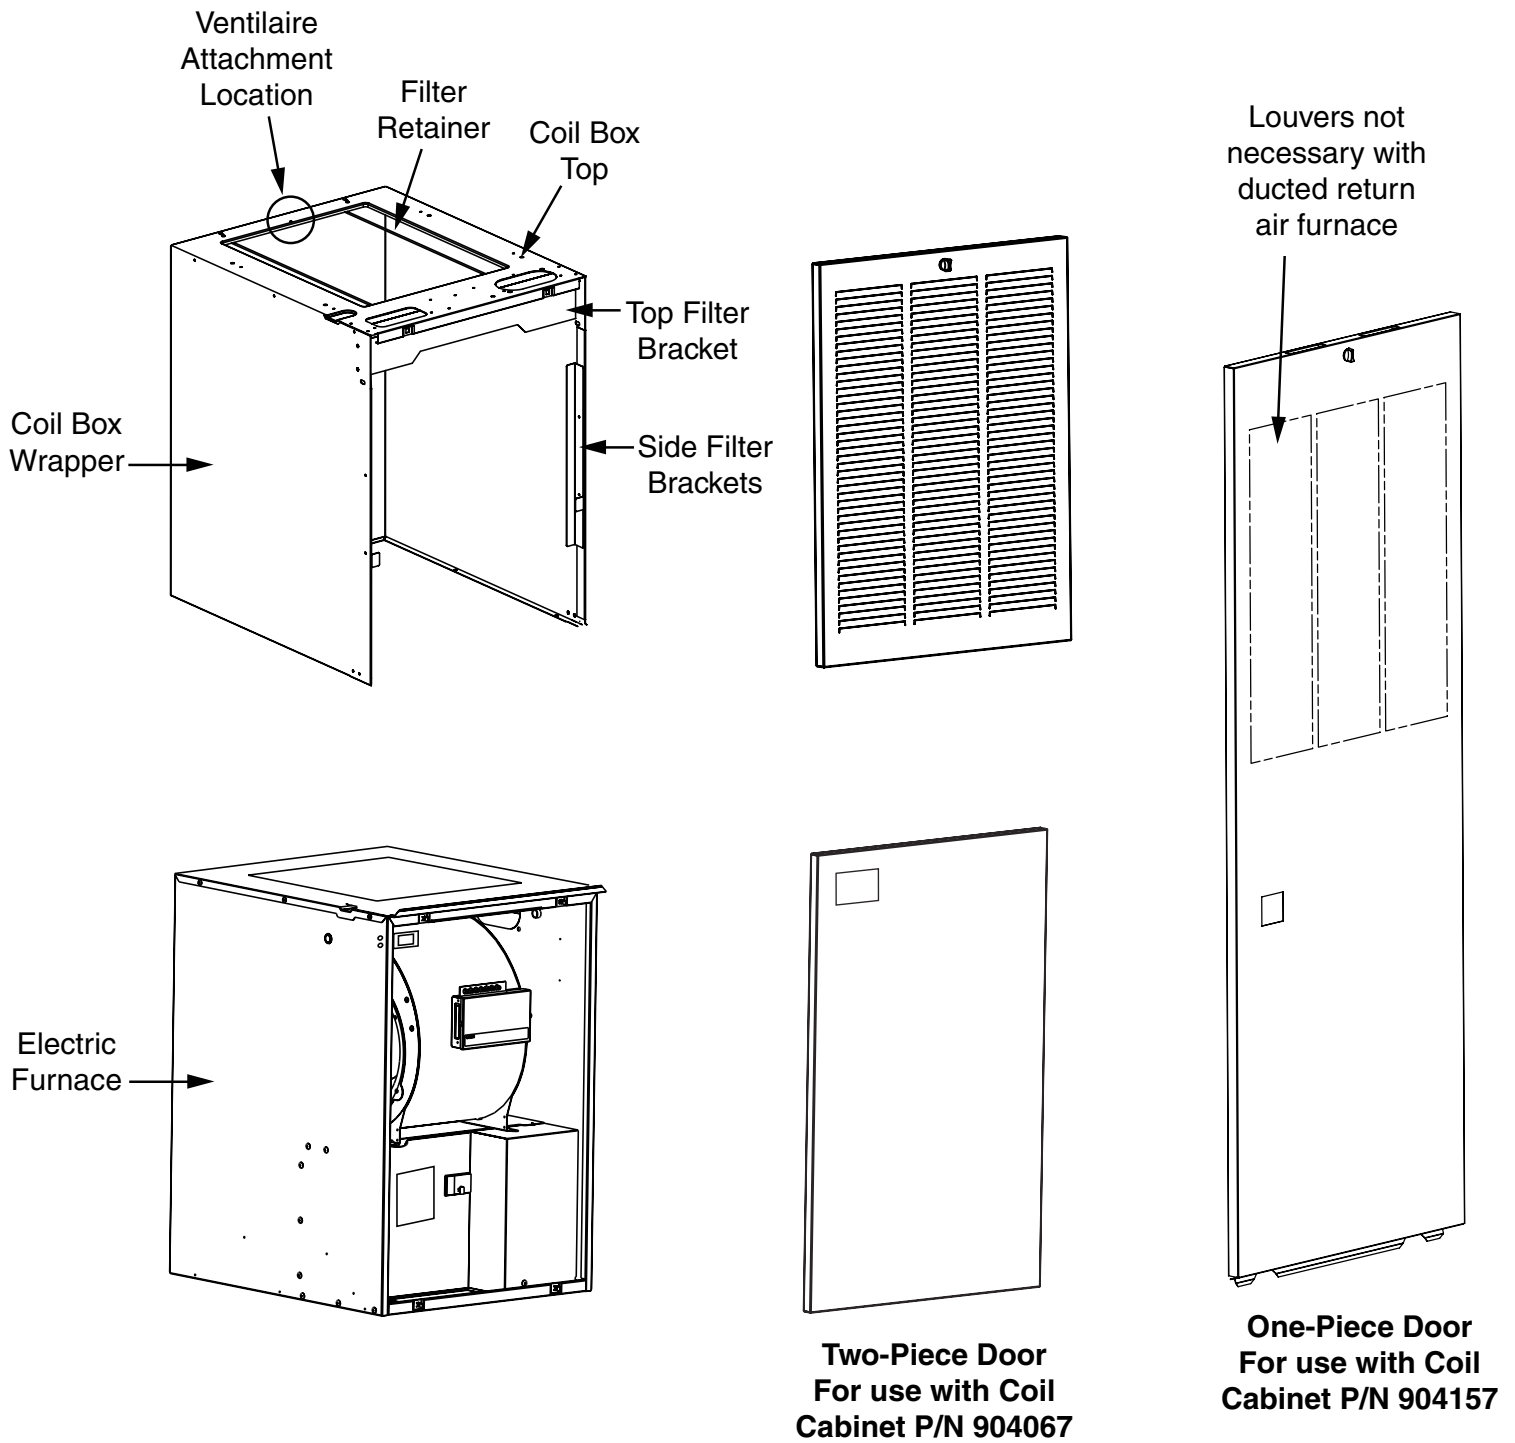

Figure 1. E Series Downflow Coil Cabinet
3. Position the coil cabinet on a flat surface. Remove the 20" x 25" filter and the louvered grille. See Figure 1 (page 2).
5. Install the VentilAire duct to the top of the coil box at the location shown in Figure 1.